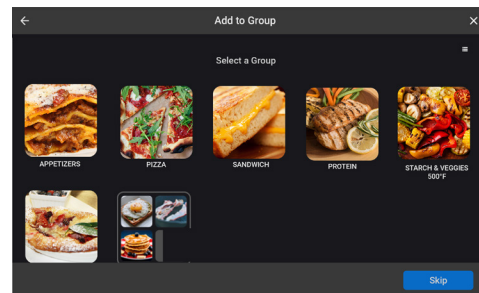

Figure 34: Select Groups to Place Recipe Into
5. Select a recipe (or recipes) to add to the group (Figure 34, below).